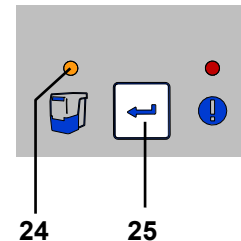

Fig. 11
- ⇒ Press the enter key (25) (the counter which determines the time period is re-set).
- ◆ The display dust drawer (24) light disappears.
***If the dust drawer is not emptied, the display for the dust drawer will remain alight (24, Fig. 11). When the unit is switched off/on an acoustic signal will occur to remind that the dust drawer needs emptying.***